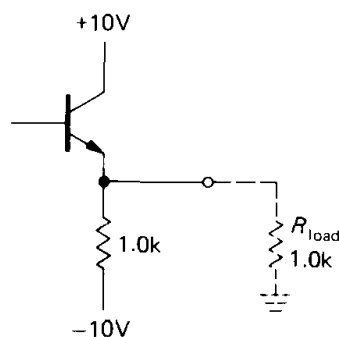
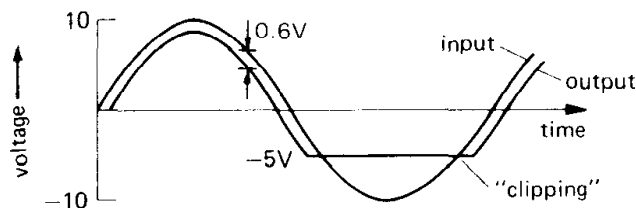

Figure 2.8. An npn emitter follower can source plenty of current through the transistor, but can sink limited current only through its emitter resistor.
Figure 2.9. Illustrating the asymmetrical current drive capability of the npn emitter follower.
1. Notice (Section 2.01, rule 4) that in an emitter follower the npn transistor can only "source" current. For instance, in the loaded circuit shown in Figure 2.8 the output can swing to within a transistor saturation voltage drop of V_{CE} (about +9.9V), but it cannot go more negative than -5 volts. That is because on the extreme negative swing, the transistor can do no more than turn off, which it does at -4.4 volts input (-5V output). Further negative swing at the input results in backbiasing of the base-emitter junction, but no further change in output. The output, for a 10 volt amplitude sine-wave input, looks as shown in Figure 2.9.